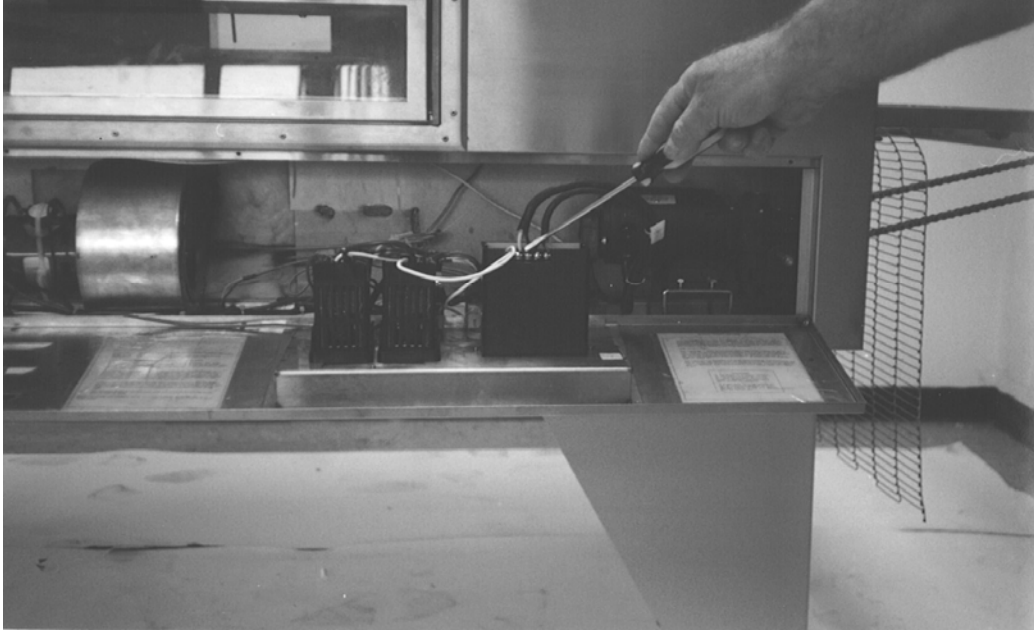

Figure 8
**Note:** Unless specified otherwise, conveyor travel is factory set for left to right operation when facing the front of the oven. If a change of direction is required, the polarity of the drive motor must be reversed. Simply interchange the black and white motor leads at the D.C. Controller located in the control panel. Refer to Figure 8,9. In addition, the conveyor belt must be installed from the right side of the oven vs. left side.